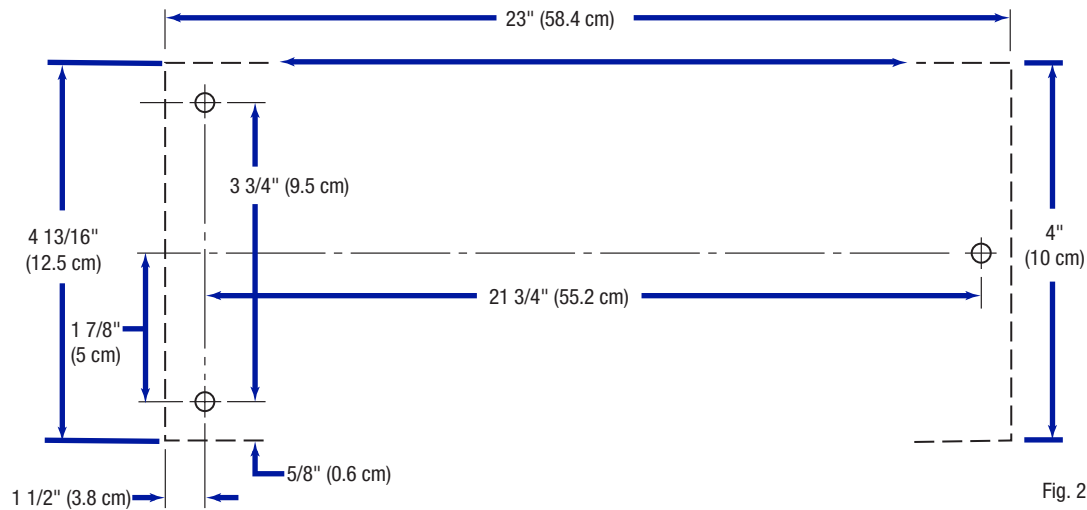

Fig. 2
**MOUNTING THE LATHE ON A BENCH TOP (Fig. 2)**
- In a clear space on the bench top, measure and mark three hole centres as shown in Fig. 2.